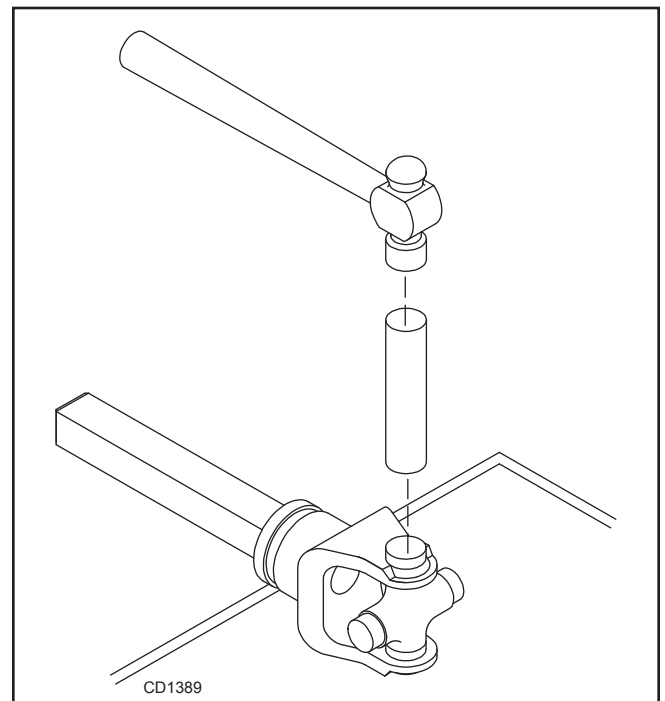

Figure 27.
3. Seat cups by placing a drift or socket (slightly smaller than the cup) on cup and rap with a hammer. See Figure 27. Install snap ring and repeat on opposite cup.